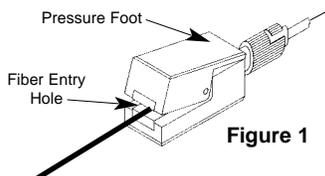

Figure 1
- Clean fiber with alcohol or cellophane tape to remove any debris/dust. Open end of the Bare Fiber Adaptor by pushing down on the **pressure foot**. Insert fiber into **entry hole** and push through until fiber comes out the end of the connector (Figure 1). Pull fiber back slowly until \*flush with connector face.